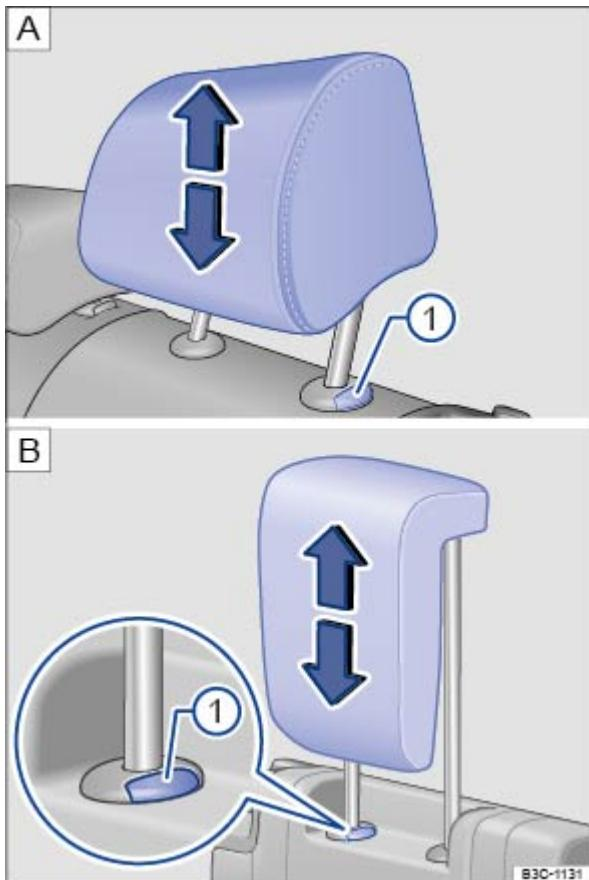

Fig. 83 Removing the rear head restraints: second row, third row.
- Push button ⇒ Fig. 83① in and hold it.
- Push the head restraint down while pressing button ⇒ Fig. 83① .